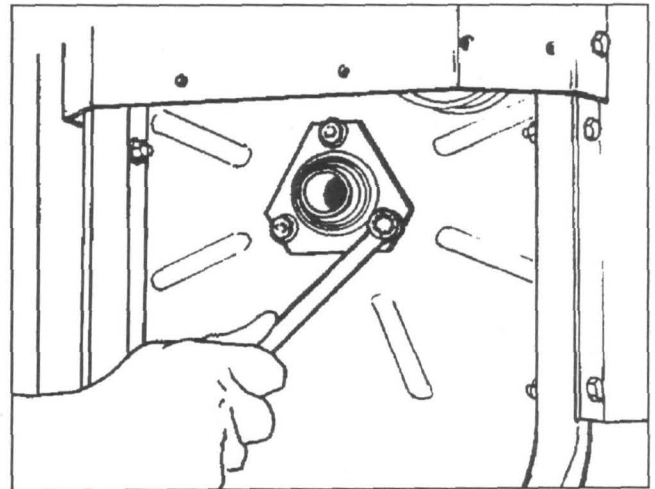

Fig. 14
D. With the bearing sleeve facing out, line up the holes in the flangettes with the notches in the wall of the main frame. Loosely (hand-tighten only) secure the flangettes in place with three carriage bolts ($\frac{5}{16}$ "-18x $\frac{3}{4}$ ") and Whiz locknuts ($\frac{5}{16}$ "-18). Be sure to insert the bolts from inside the chamber wall so that the locknuts are on the outside (see Fig. 14). The locknuts will be securely tightened in a later step.
If the bearing on the engine side of the main frame was not removed during the disassembly steps, loosen the three Whiz locknuts that secure the flangettes to the chamber wall (see Fig. 14). Loosen each locknut two or three turns. Then apply a light coating of oil to the inside walls of the slotted bearing sleeve.